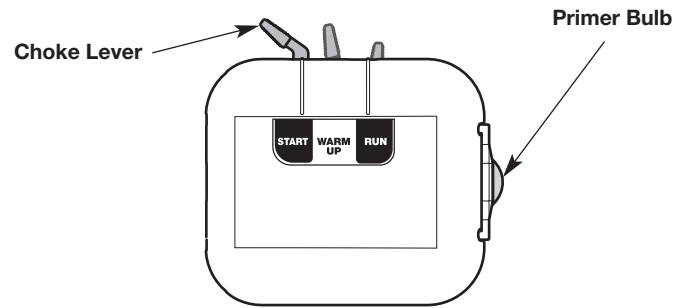

Fig. 4
3. Slowly press and release the primer bulb **10 times** (Fig. 4). If fuel cannot be seen in the primer bulb, press and release the primer bulb until fuel is visible.
4. Move the choke lever to the **START** position (Fig. 4).
7. Continue to squeeze the throttle control. Move the choke lever to the **WARM UP** position (Fig. 4).
10. Continue to squeeze the throttle control. Move the choke lever to the **RUN** position (Fig. 4). Allow the engine to warm up for an additional 60 seconds. The unit may be used during this time.